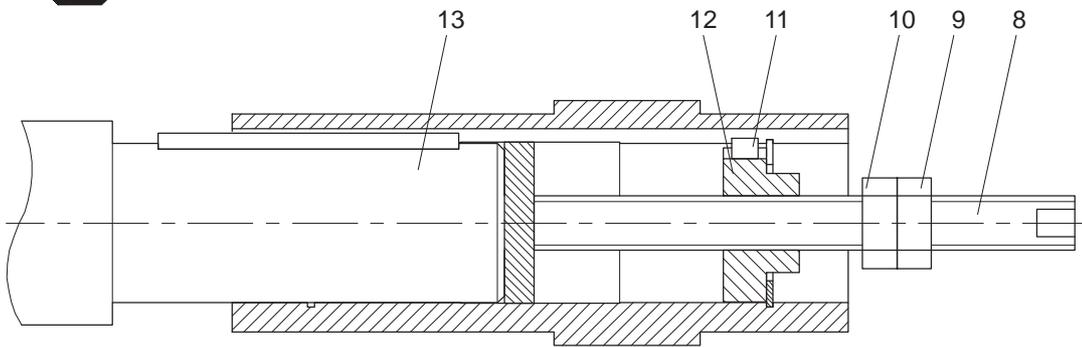

Figure 6.9.2: Remove hollow shaft and parallel key
- 3) When the rust solvent has sufficiently worked in, pull off the gear unit, using the device, see figure 6.9.2 "Remove hollow shaft and parallel key" .